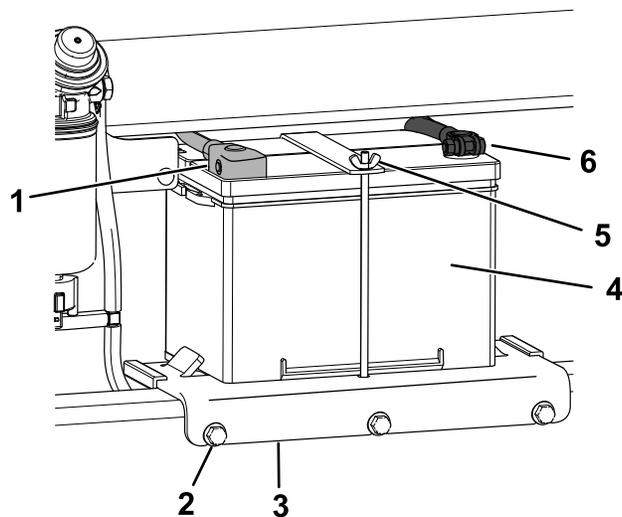

Figure 61
4. Disconnect the negative (black) ground cable from the battery post (Figure 61). Retain the fasteners.
6. Disconnect the positive (red) cable from the battery post (Figure 61). Retain the fasteners.
- Loosen the 3 bolts securing the battery tray and remove the tray with the battery (Figure 61).
- Place the battery on the battery tray and secure it with the wing nut and rod (Figure 61).
- Install the battery tray to the machine and secure with the 3 bolts (Figure 61). Torque the bolts to 41 N·m (30 ft-lb).
- Using the fasteners previously removed, install the positive (red) battery cable to the positive (+) battery terminal (Figure 61).
- Using the fasteners previously removed, install the negative (black) battery cable to the negative (-) battery terminal (Figure 61).